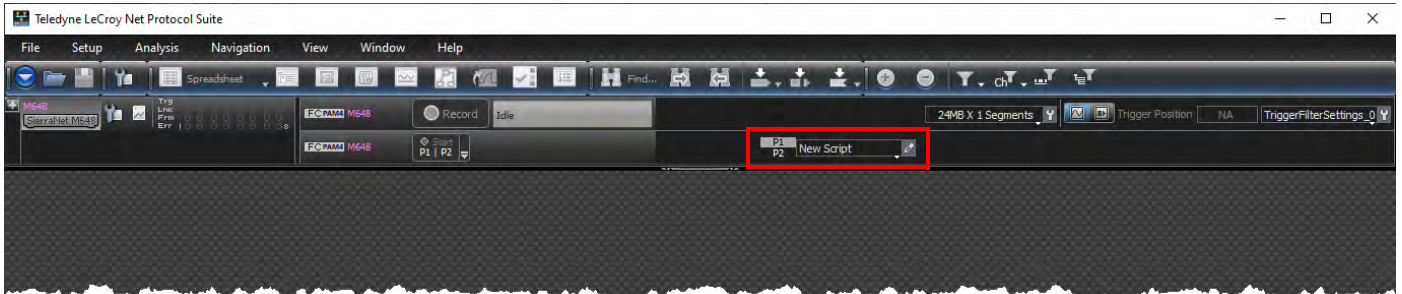

Figure 8.5: FC4 Main Menu with New Script Icons
- Click the small pencil icon next to the New Script tab to bring up the Exerciser Script Manager (Figure 8.5).